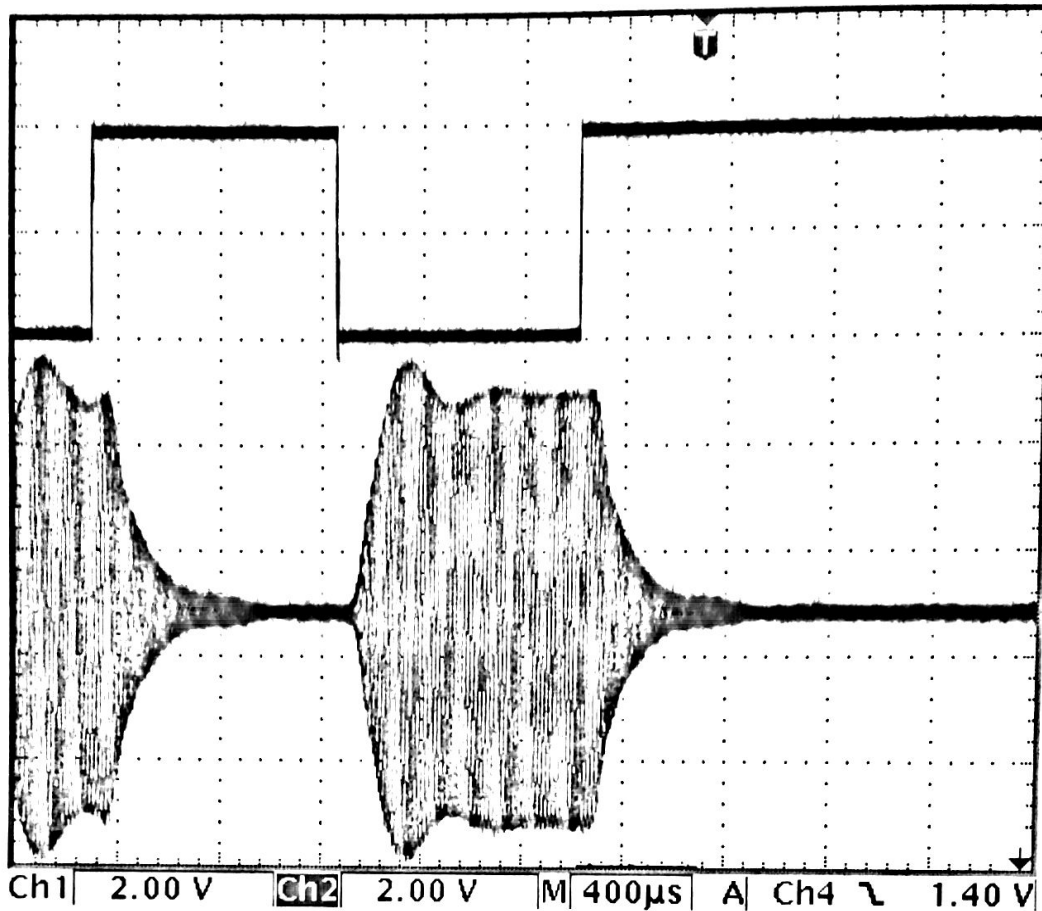

Figure 6
18. Turn the Tuneable LPF's *Cut-off Frequency Adjust* control slowly from fully clockwise until the higher frequency component of the FSK signal becomes equal to zero, as shown in Figure 6.
21. Connect the scope's Channel 2 input to the envelope detector's output as shown in Figure 6 below.